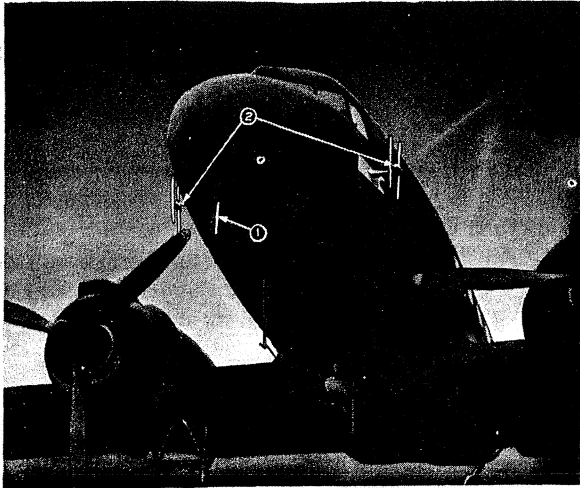

Figure 2-3. Antenna ★AT-1/APN-2 and Antennas ★AT-2/APN-2 Mounted on Airplane
(1) Mount the control box within easy reach of the operator when he is sitting in a normal position in front of the indicator.
(2) Securely fasten the control-box mounting, Mounting FT-406-A, to the structure of the plane. No additional ground braid is necessary, as the mounting is not an insulated shock mounting, and ground is also provided through the control-box cable to the receiver-transmitter unit.
(3) Loosen the knurled binding nut on top of the control box, and place the two lugs on the bottom of the control box in the holes in the bottom legs of the mounting. Push the top of the control box into the mounting with the threaded binding screw in the slot provided for it. Hold the control box firmly against the mounting and securely tighten the knurled binding nut.
(4) Attach the control-box cable and tighten the connector coupling nut.
f. ANTENNA ★AT-2A/APN-2.—Mount the two receiving antennas on opposite sides of the fuselage, near the front of the plane, so the maximum directional effect will be obtained in the forward direction. Mount these antennas so that the directors and dipoles are perpendicular to the longitudinal axis of the plane, and with the director (shorter rod) toward the front of the plane. (See No. 2. in fig. 2-3.)
(1) Radio Frequency Cable RG-8/U must be used for the antenna cables. Run these cables from the indicator unit, through the hollow support base of the receiving antennas, and connect the inner conductor of the
g. ANTENNA ★AT-1/APN-2.—Mount the transmitting antenna on the under side of the fuselage near the front of the airplane (See No. 1 in fig. 2-3.) Use Radio Frequency Cable RG-8/U and Plug PL-259 to connect the transmitter output to the antenna.